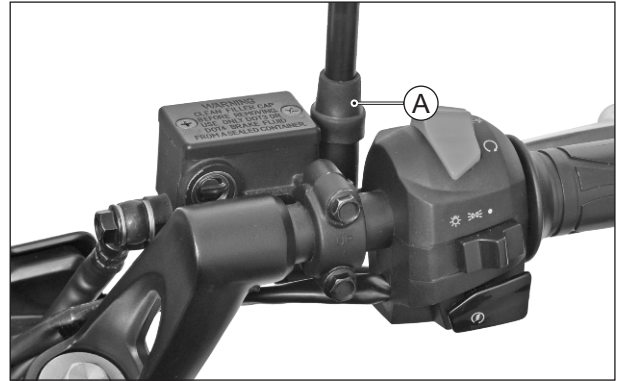

Fig. 6.33
- Dislocate the dust cap (A) and loosen the lock nut of rear view mirror. Now, remove the rear view mirror gently. (Fig. 6.33)